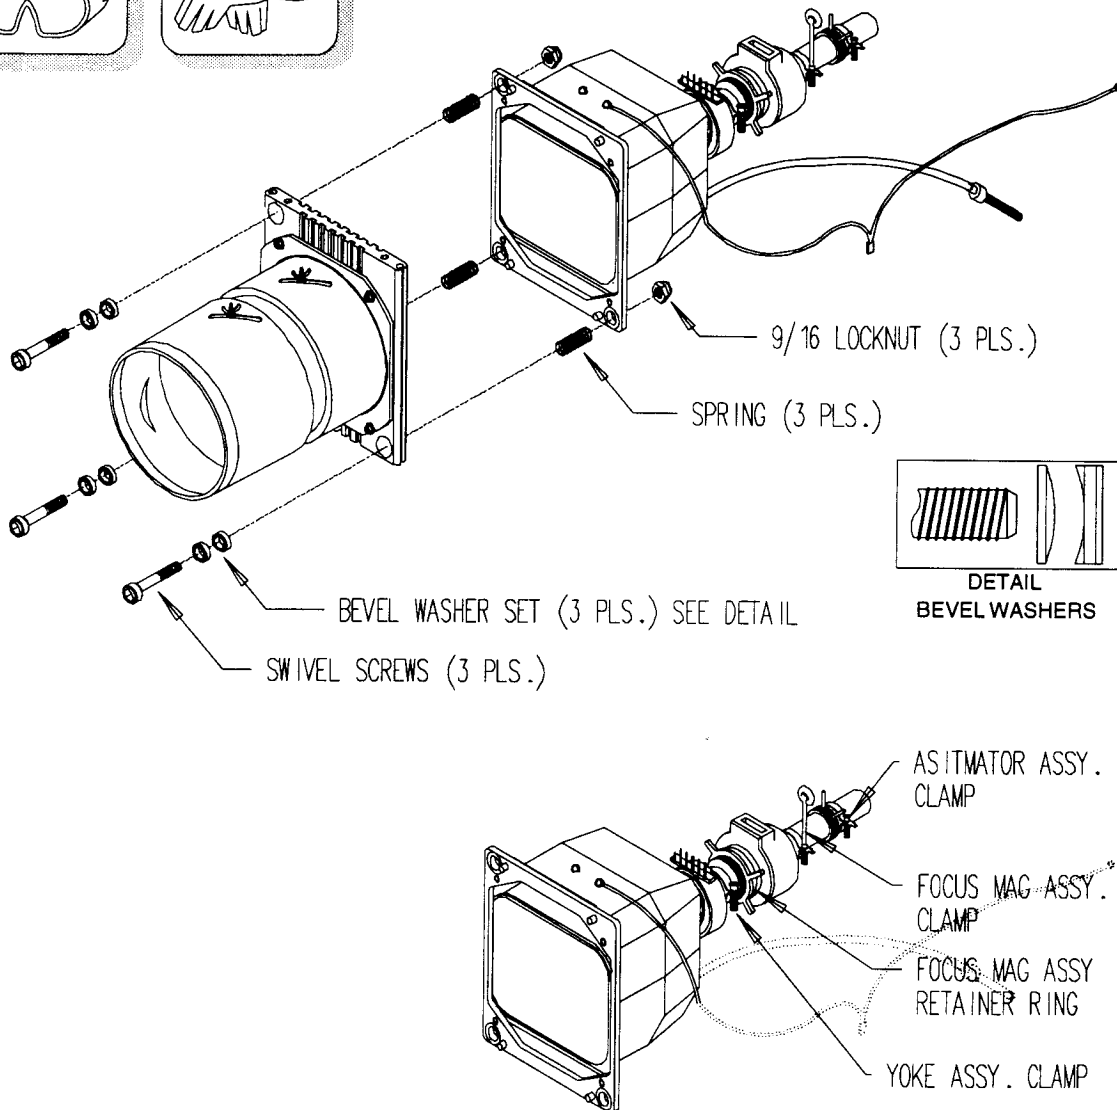

FIGURE 9-28. AMPRO 3600 CRT replacement procedure.
- **STEP 7. REMOVE LENS ASSEMBLY:** Using a 3/16 lens adjustment tool and a 9/16 wrench, remove the three (3) swivel screws, three (3) bevel washer sets, three (3) springs and the three (3) 9/16 self-locking nuts. See Figure 9-28.
- **STEP 8. CRT NECK COMPONENTS:** Loosen the Yoke/Convergence assembly clamp, Focus magnet assembly clamp and retainer ring and the Astigmator assembly clamp. Slide each component off the neck of the CRT. See Figure 9-28.